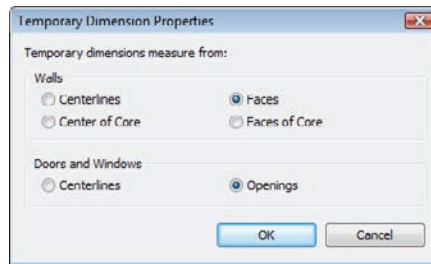

FIGURE 2.26 The most popular configuration for temporary dimensions
3. In the Doors And Windows group, select Openings, as shown in Figure 2.26.